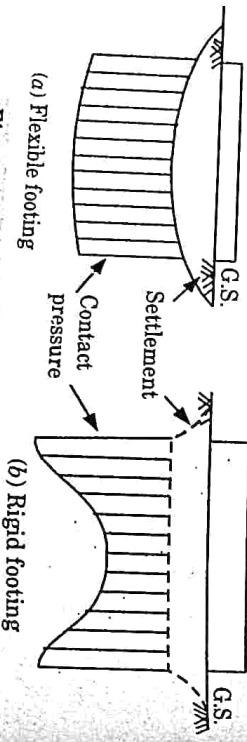

Fig. 3.17.1. Contact pressure on saturated clay.
- 1. Fig. 3.17.1 shows the qualitative contact pressure distribution under flexible and rigid footings resting on a saturated clay and subjected to a uniformly distributed load q .